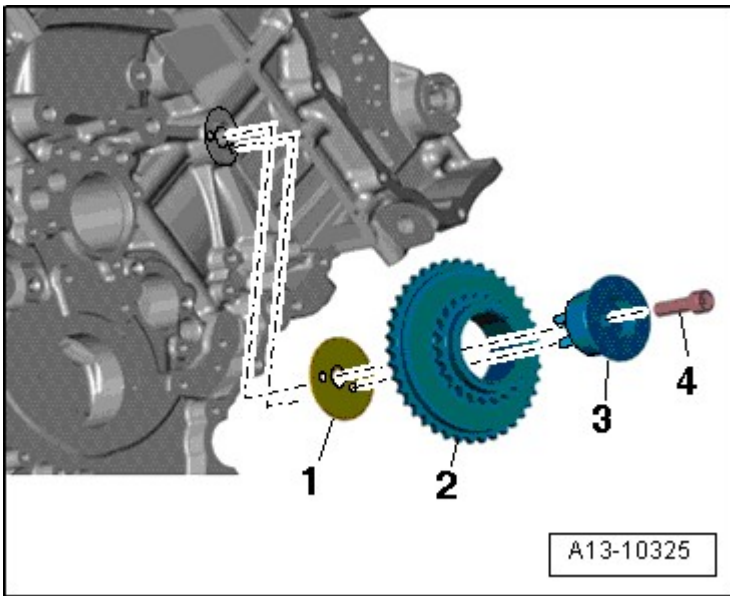

Fig. 7: Location Of Mounting Pins For Camshaft Timing Chain Drive Sprocket
- Installed location, refer to **Fig. 7**